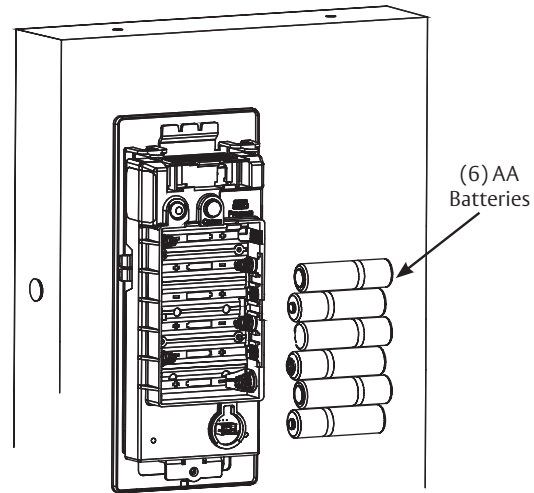

Fig. 30
- Place six (6) "AA" alkaline batteries in compartment, being careful to align polarity properly. (Figure 30)